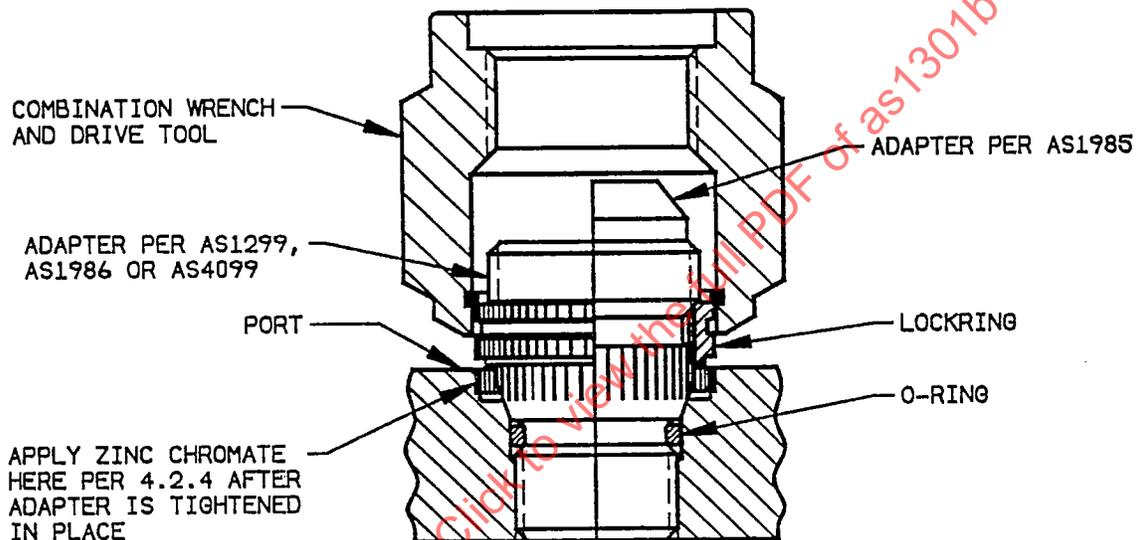

FIGURE 3 - Torquing Adapter Assembly
- 4.2.3 Using the applicable combination wrench and drive tool in Table 3, engage the serrations of the tool with the external serrations of the adapter lockring per Figure 3. Place a torque wrench of the proper size over the hex of the wrench and apply a torque equal to the minimum value specified in Table 3. Note the relationship of the lockring serrations with respect to the prebroached serrations in the port. If they match, proceed to 4.2.4. If the lockring serrations do not match the prebroached serrations in the port, continue to slowly torque the adapter toward the maximum value allowed in Table 3 until the serrations match. This will normally take between 3° and 8° of turning, the maximum value need not be reached if the serrations align themselves prior to that value. Do not exceed maximum torque values.